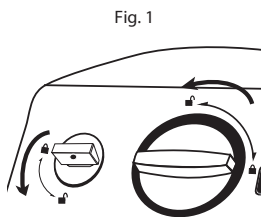

Fig. 1
① Remove cover from key lock.
② Insert Override Key into key lock and turn the key counter clockwise one quarter turn to the unlocked position.
③ Turn the knob counter-clockwise one quarter turn to the unlocked position. (Fig.1)